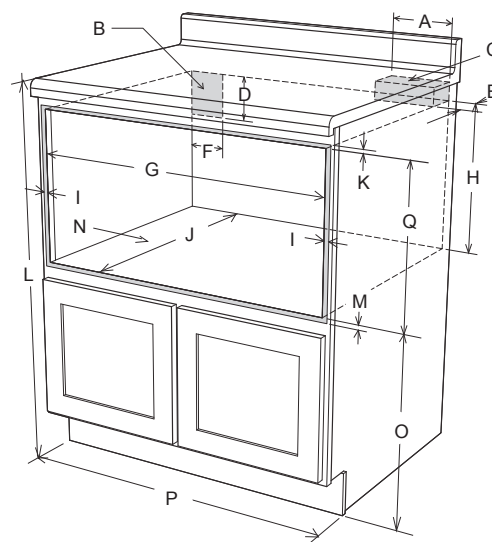
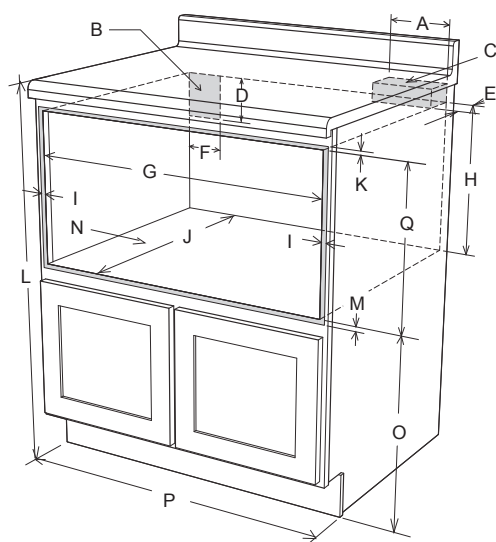
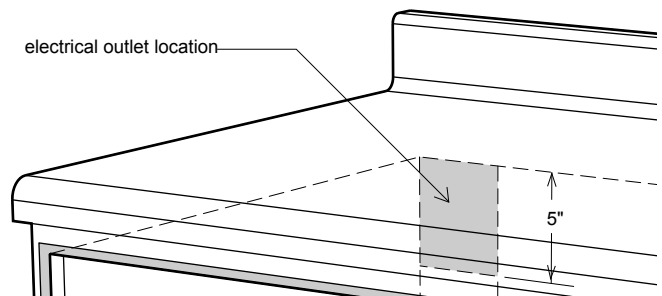

Figure 2
Figure 4
Figure 8
For SAFETY CONSIDERATIONS do not install drawer in any combustible cabinetry, which is not in accord with the stated clearances and dimensions on pages 4 and 5. See **Figure 2** (for 24") or **Figures 4 and 5** (for 30").
- Dimensions that are shown in **Figures 2, 4 and 5** must be used. Given dimensions provide minimum clearance. Locate electrical outlet in the shaded area in the upper left-hand corner of the cutout. See **Figure 8**.
To reduce the risk of tipping of the drawer, the Anti-Tip block must be properly installed located 14 $\frac{3}{4}$ " above the floor on which the Microwave In-A-Drawer™ will sit. The 6" Anti-Tip block must be provided by the installer. See **Figures 2 and 6** for (24") or **Figures 4, 5, and 6** (for 30"). The Anti-Tip block prevents serious injury that might result from spilled hot liquids.